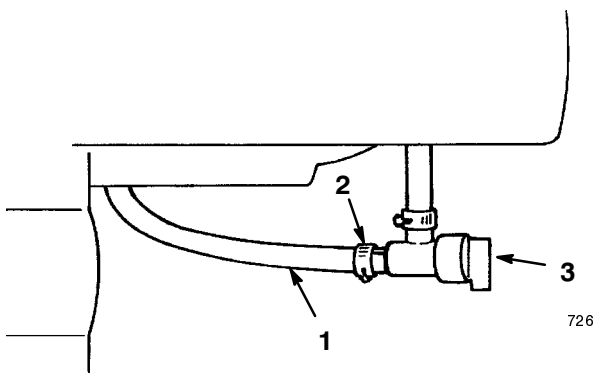

Figure 18
3. Open the fuel shutoff valve below the fuel tank (Fig. 18).
6. Close the fuel shutoff valve (Fig. 18).